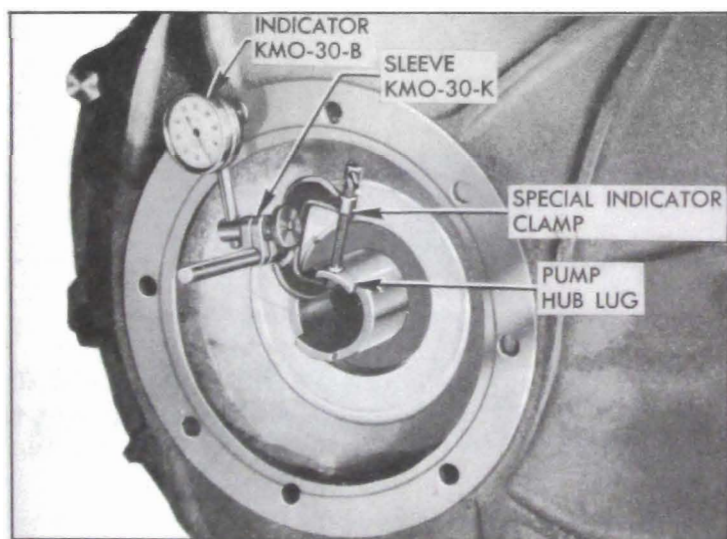

Figure 5-59—Checking Run-Out of Rear Face of Bell Housing
5. Attach the special dial indicator clamp to the oil pump driving lug on rear end of converter pump hub. **CAUTION:** Do not clamp to bearing surface on hub. Mount Dial Indicator KMO-30-B to bear against rear face of housing at a radius of  $3\frac{3}{4}$ ". See figure 5-59.